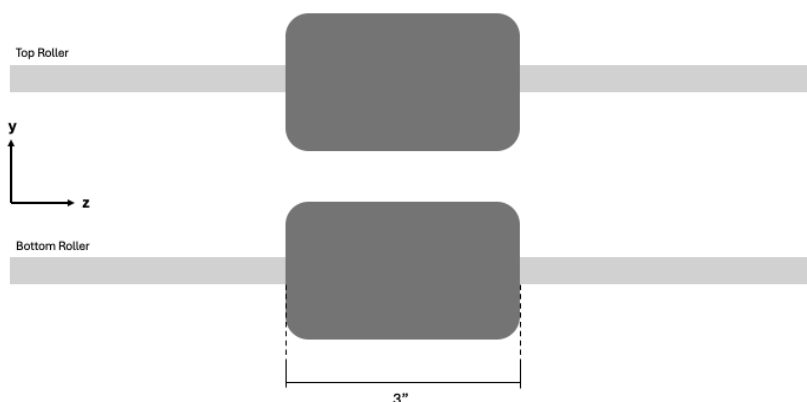

Figure 8 – Tip compression roller configuration
- 7.1.** Ensure both the top and bottom rollers are configured with a straight 3” roller, as seen in Figure 8.